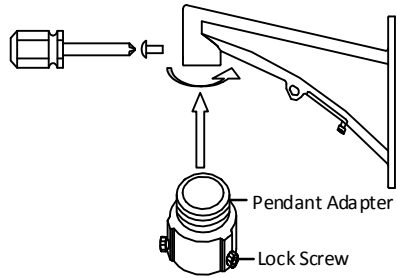

Figure 2-10 Pendant Adapter
- The bracket in Figure 2-10 is the recommended bracket for this series of speed dome, and a pendent adapter is required if any other bracket is selected.